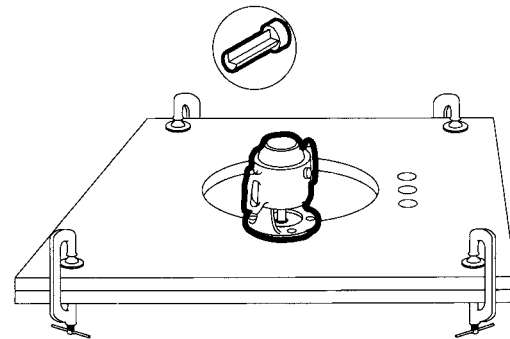

Figure 17
- Use a 2 HP to 3 HP router with a 1" (25 mm) template guide and a $\frac{3}{8}$ " (10 mm) carbide-tipped, single-flute bit (see Figure 17).